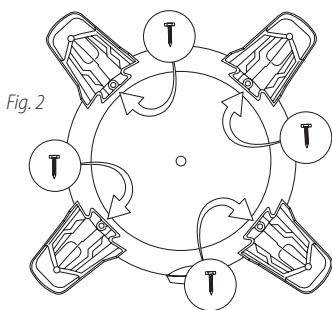

Fig. 2
3. Secure caster feet **4** to tank with screws **9** provided. **Fig. 2**.